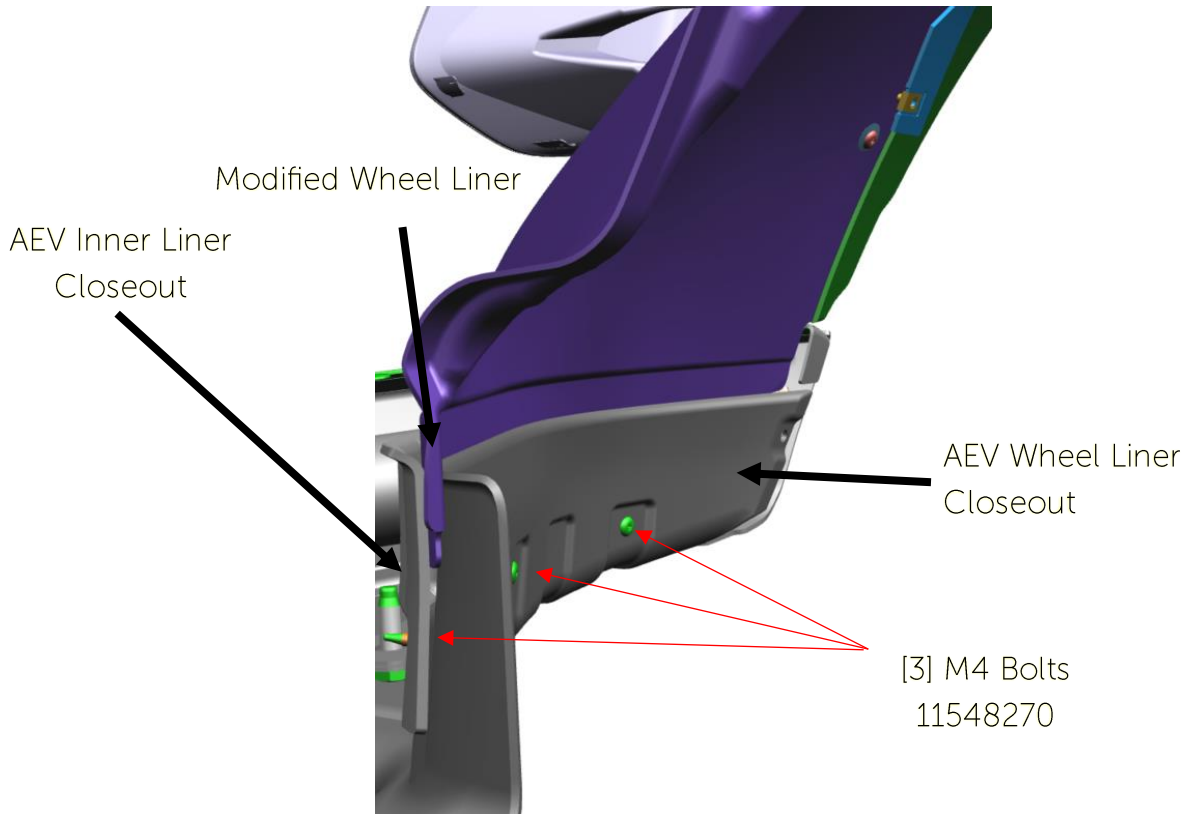

Figure 2 – Passenger Side (RH)
- a. Using [3] M4 Bolt w/ washer (T15 Socket) 11548270 per side, wedge factory Wheel Liner between AEV Wheel Liner Closeout and AEV Inner Liner Closeout and torque bolts until wheel liner is secured in slip-joint – Fig. 2